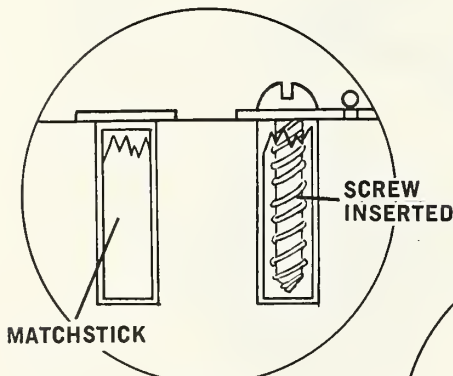

Fig. 5
1. Tighten screws in the hinges. If screws are not holding, replace them, one at a time, with a longer screw. Or insert a matchstick in the hole and put the old screw back in. (Fig. 5)